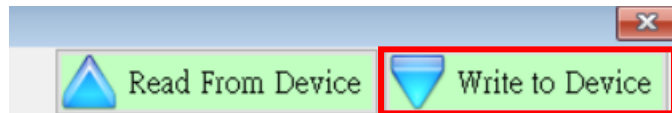
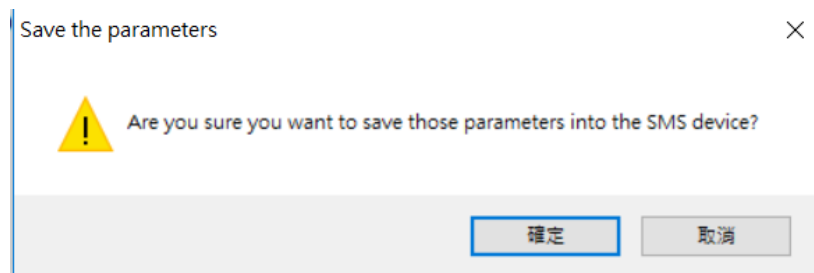
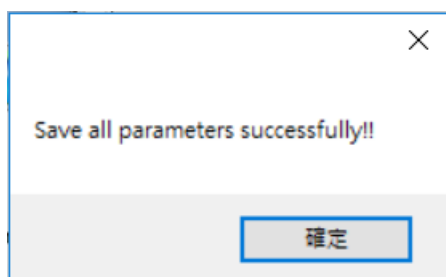

Figure 5.10.13
Figure 5.10.14
Figure 5.10.15
K. After confirming the completion, click “Write to Device”. As shown in Figure 5.10.13, write the settings to GTP-541M. At this time, the confirmation window will pop up and click OK. As shown in Figure 5.10.14, the parameters will be written. Information, after completion, will jump out of the success window as shown in Figure 5.10.15